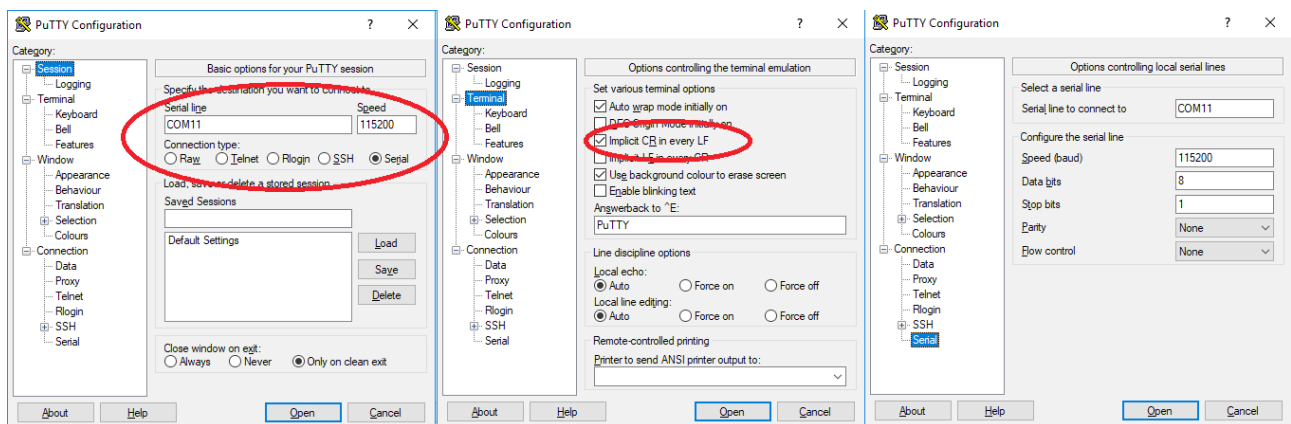

Fig. 12: PuTTY - settings
- for setting up PuTTY see Fig. 12